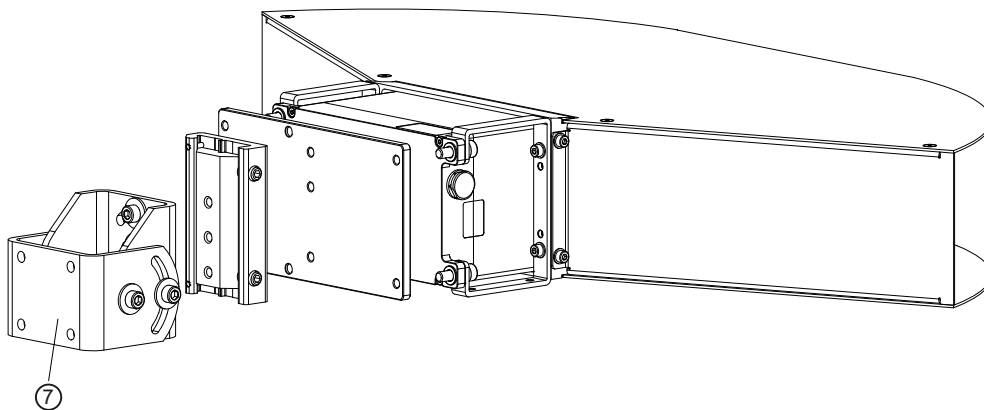

Fig. 4-4: Mount the LD-MRS on the weather resistant cover Part No. 2058033 and on the holder Part No. 1047429
1. Mount retention brackets 1 and 2 on the body with the frame; see versions 1 or 2 in Abb. 4-4.